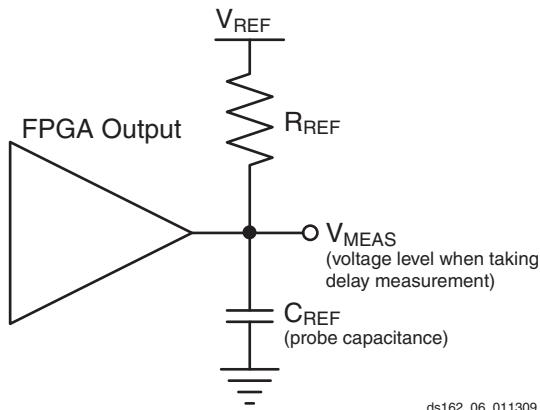
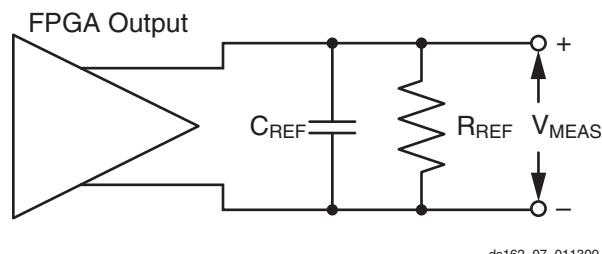

Figure 4: Single-Ended Test Setup
Figure 5: Differential Test Setup
4. This is an input voltage reference that bears no relation to the V_{REF} / V_{MEAS} parameters found in IBIS models and/or noted in Figure 4.
Output delays are measured using a Tektronix P6245 TDS500/600 probe (<1 pF) across approximately 4" of FR4 microstrip trace. Standard termination was used for all testing. The propagation delay of the 4" trace is characterized separately and subtracted from the final measurement, and is therefore not included in the generalized test setups shown in Figure 4 and Figure 5.